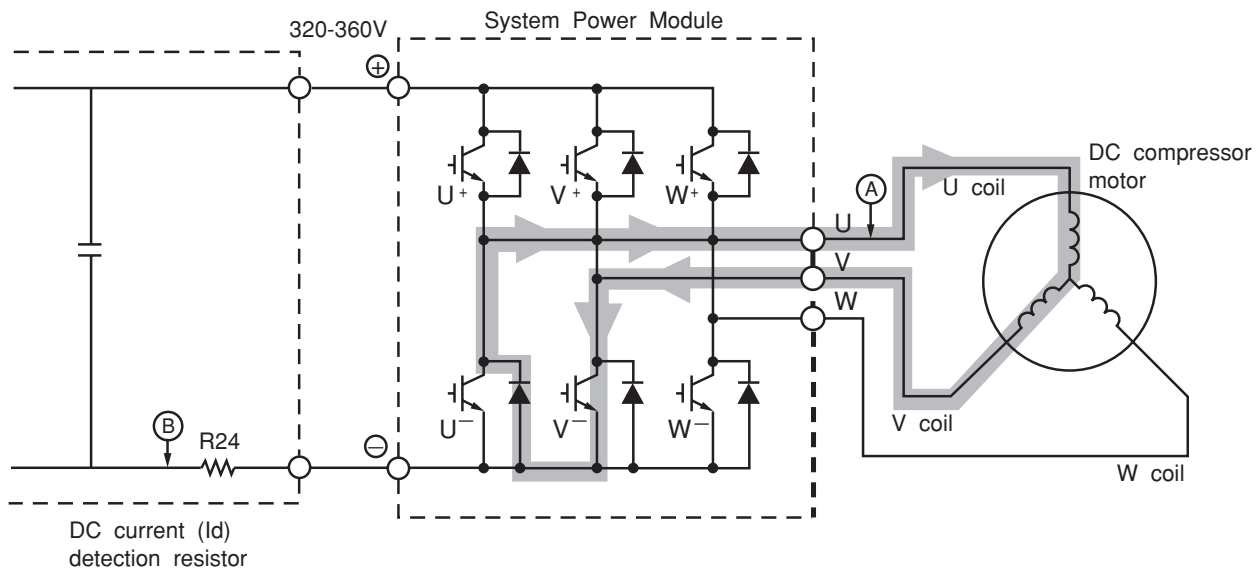

Fig. 3-4 System Power module circuit (U⁺ is OFF, V⁻ is ON)
- (2) When U⁺ transistor is OFF: (by inductance of motor coil) U coil → V coil → V⁻ transistor → Return diode → Point ① (Fig. 3-4)